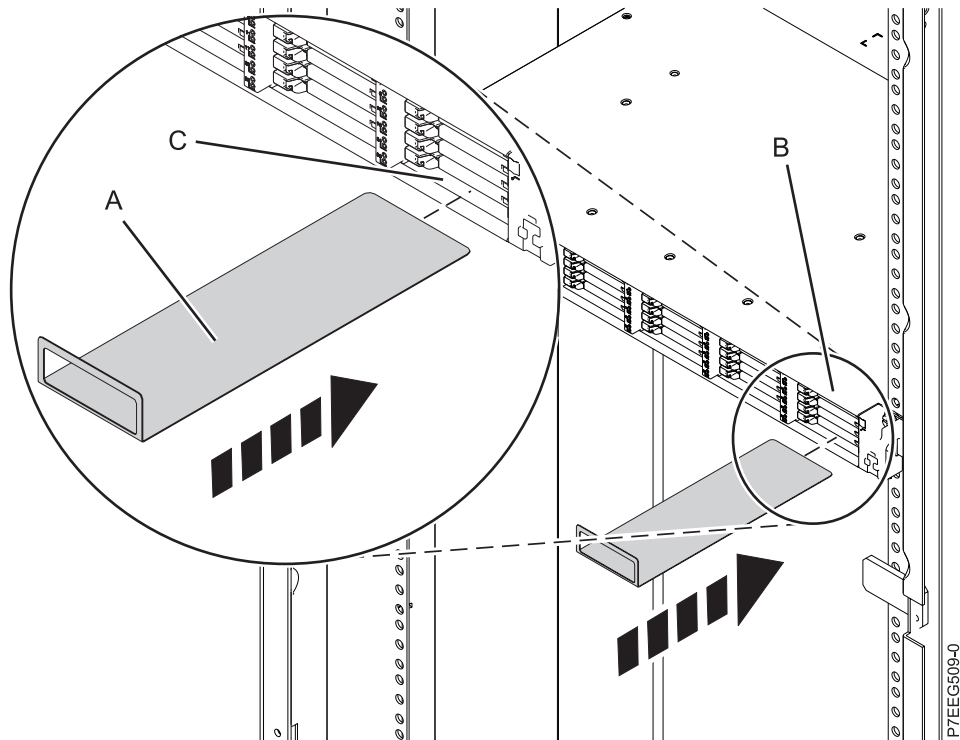

Figure 16. Inserting the service card
- f. At the front panel of the enclosure, hold the service card (A) with its handle away from the enclosure and facing upward, as shown in Figure 16. Align the other end of the service card with the bottom of the last bank of solid-state drives (SSDs) on the right of the enclosure (B). Gently slide the service card into the space between the bottom SSD slot and the sheet metal of the chassis (C).